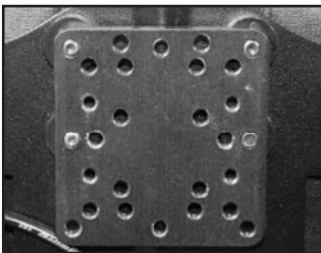

Fig. 78
2. Orient the universal plate to desired position. Fig. 78 & 79